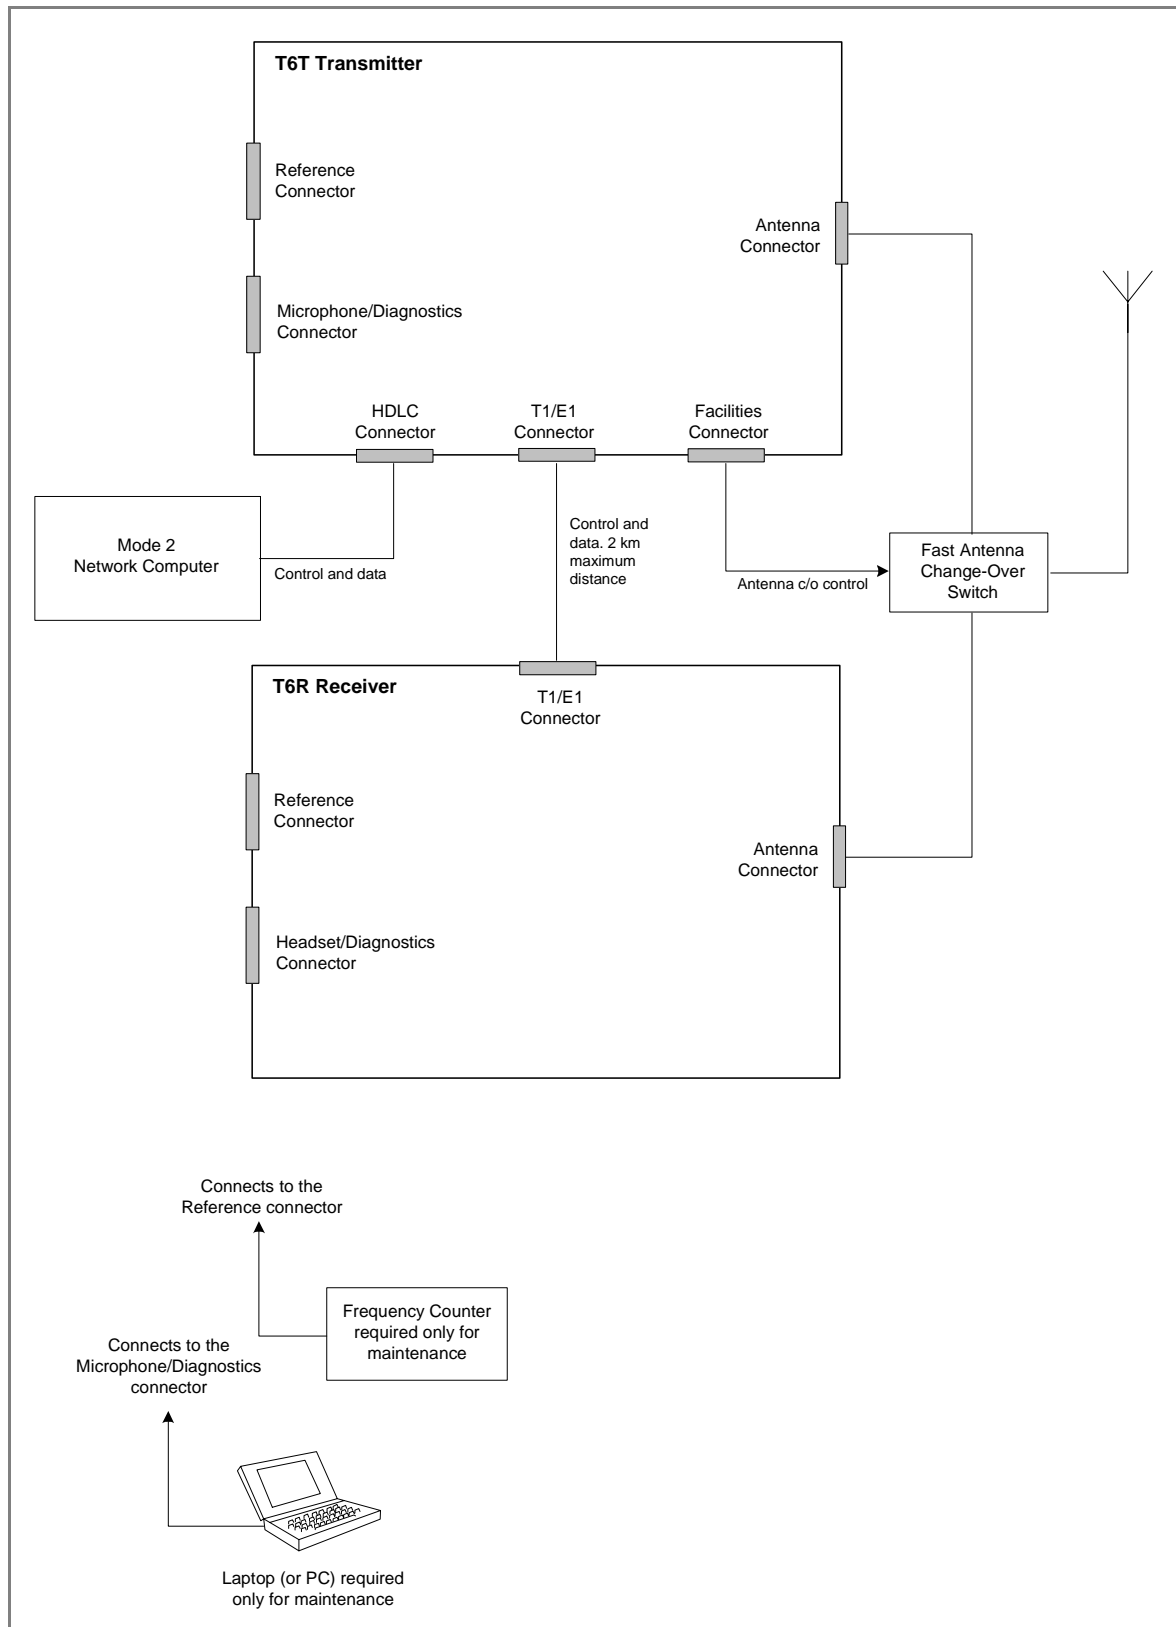

Fig 4 T6T Transmitter Mode 2 Configuration
- ❑ T6T Mode 2 configuration (see Fig 4).